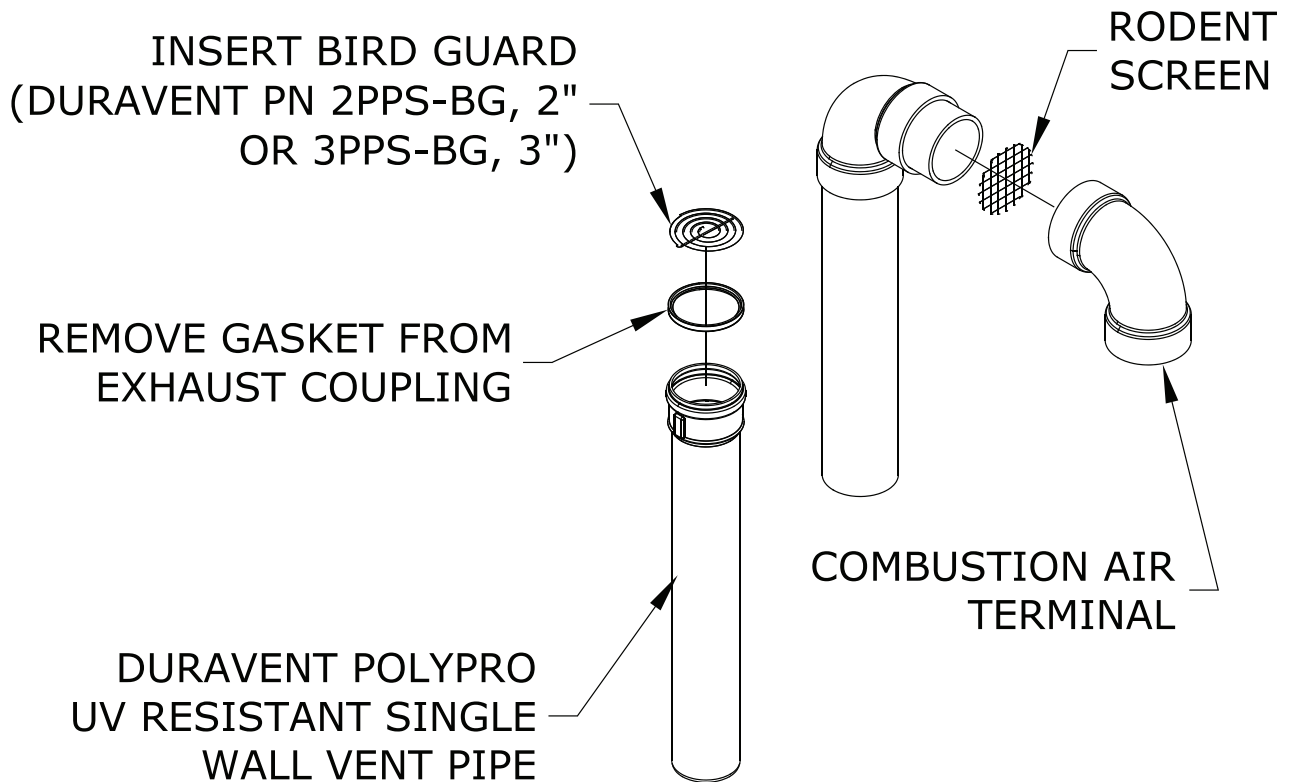

Figure 7.37: Installation of DuraVent PolyPro UV Resistant Single Wall Vertical Terminal
- a. See Figure 7.37 for the proper orientation of twin pipe vertical terminals.
- c. A 180° bend (or two 90° elbows) are installed on the top of the air intake pipe. If two 90° elbows are used, a rodent screen can be installed between them (Figure 7.37). If a 180° bend is used, install a rodent screen in the open side of the bend, using a ring made of PVC pipe. If desired, the termination fittings can be attached to the end of the intake pipes with field supplied stainless steel screws so that they can be later removed for cleaning and inspection. If this is done, drill a clearance hole in these fittings and a tap hole in the end of the intake pipes to accept these screws.